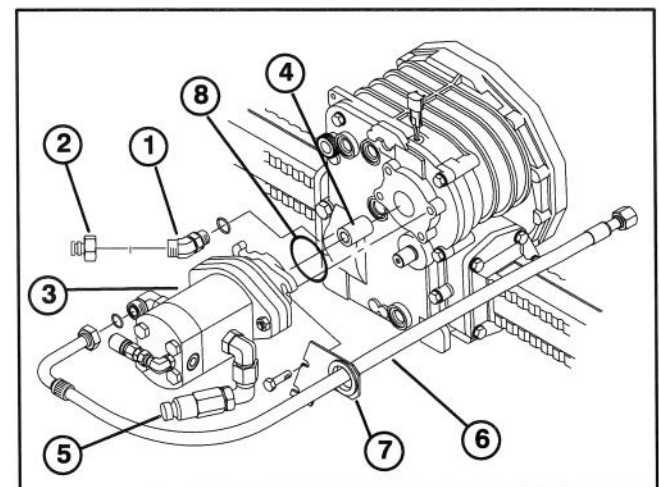
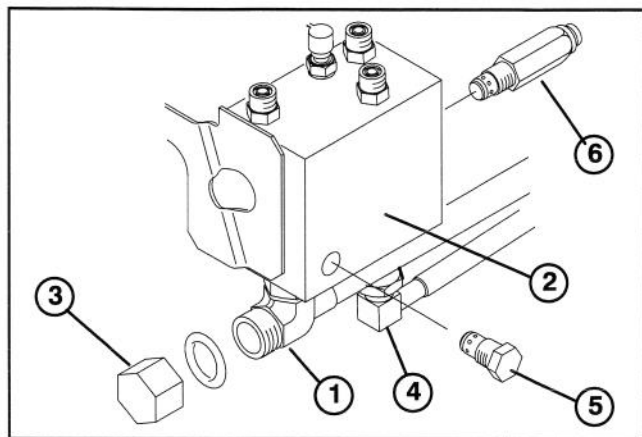

Figure 2
Figure 3
3. Thread a 45° fitting into front of axle (Fig. 2). Tighten fitting until nut contacts axle housing, then, back out until fitting is orientated 45° toward the right side of traction unit. Tighten fitting nut.
4. Thread quick coupler nipple (Fig. 2) onto 45° fitting.
8. Thread (4) new M10 x 30mm bolts into axle until bolt heads are approximately 1/2" from axle surface.
10. Insert hose bracket between bolt heads and pump flanges (Fig. 2).
1. Thoroughly clean hydraulic manifold (Fig. 3).
4. Connect pump supply hose (Fig. 2) to 90° fitting on right side of pump (Fig. 2) and to "T" fitting on bottom of manifold (Fig. 3). Straight end of hose to be routed through grommet on hose bracket, between main axle housing and left lift arm (above left axle shaft housing).
1. Remove plug from "CV" port on left side of hydraulic manifold (Fig. 3).
3. Remove plug from "R1" port on rear of hydraulic manifold (Fig. 3).
2. Position a drain pan under 90° fitting (Fig. 3) on bottom of hydraulic manifold.
1. Loosen (4) M10 x 30mm bolts securing pump to axle and remove hose bracket from bolt.
2. Position a drain pan under hydraulic manifold (Fig. 3) and disconnect pump supply hose from "T" fitting on bottom of manifold.
6. Re—install cover plate to axle with (4) M10 x 25mm bolts.